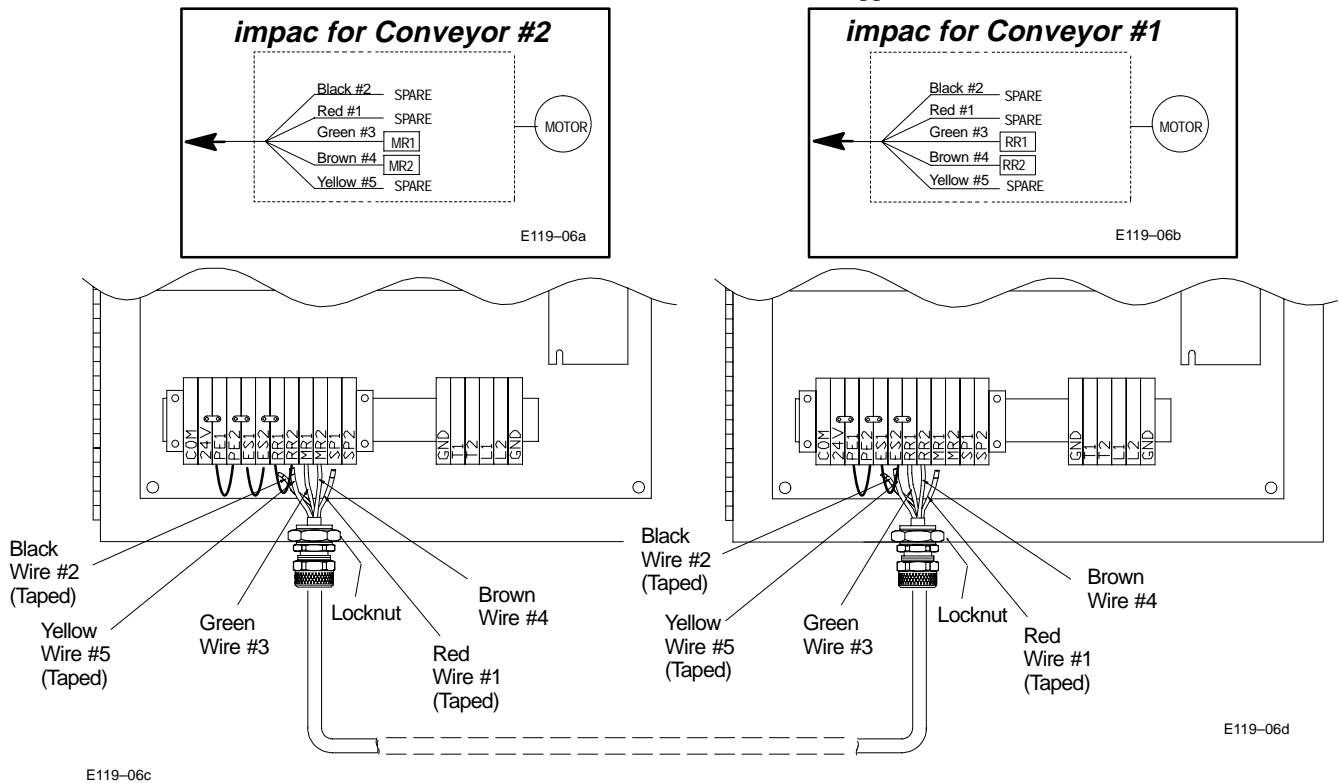

Figure 6: Sample *impac* to *impac* Wiring Linking Cable Connections
- b. Remove the Locknut (Figure 6), from the Cord Grip, and insert the Cord Grip through the hole at the bottom of the controller cabinet. Attach and tighten the Locknut with an adjustable wrench.
4. Label both ends of the Controller to Controller Linking Cable using blank Labels (D) provided and marked with a permanent marking pen. The Label should be wrapped around the Cable inside the point where the Cable enters each *impac* Conveyor Controller. When multiple Kits are used, make sure Labels for each Kit are unique (i.e., K1, K2, ...).
5. Wire the Linking Cable to the *impac* Conveyor Controller Terminal Block (Figure 6).